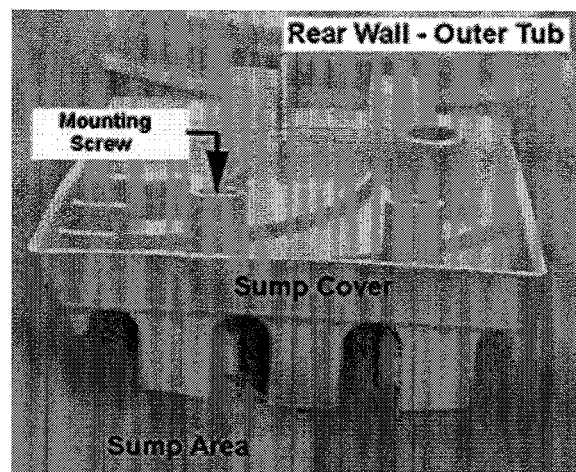

Figure 8
- A sump cover is placed directly above the sump area which catches detergent and allows for a better mixing of the detergent with the wash water, and serves as a strainer. This eliminates the separate recirculation pump. **Figure 8**
2. Remove the mounting screw securing the cover to the outer tub. **Figure 8**